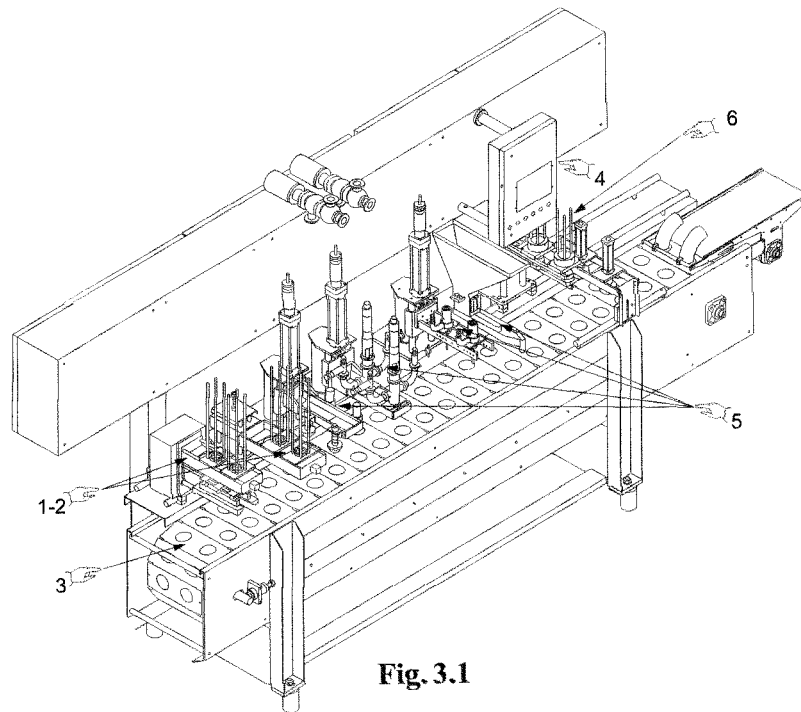

Fig. 3.1
4. Set of lamellas with slots (*Part.3 Fig.3.1*) specifically designed to hold the type of container in production. The lamellas are supported by two members which guide the chains driven by the gear wheels.
7. Control panel with operator interface program (*Part.4 Fig.3.1*).
- A stack of empty containers and a stack of covers are placed manually in the relative magazines (*Part.1 e Part. 2, Fig.3.1*).
- The lamellas, with the appropriate slots (*Part.3 Fig.3.1*), move forward with a jogging action. During the standstill period, an empty container per line is placed in the slot.
- The lamella (*Part.3 Fig.3.1*) with the empty containers is jogged forward once (a number of times) and stops under the dosing stations (*Part.5 Fig.3.1*). The dosers fill the containers with the required quantity of ice-cream, chocolate and granules.